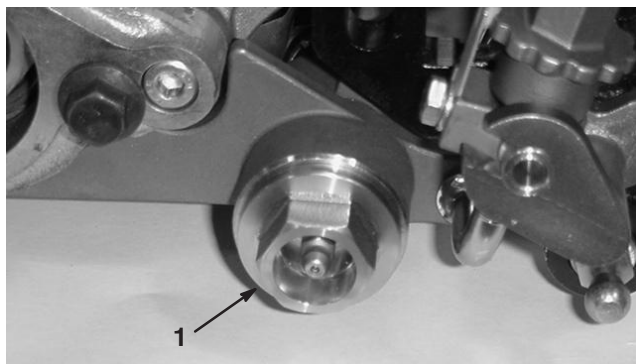

Figure 36
10. Remove the cap plug from the groomer housing (Fig. 36).